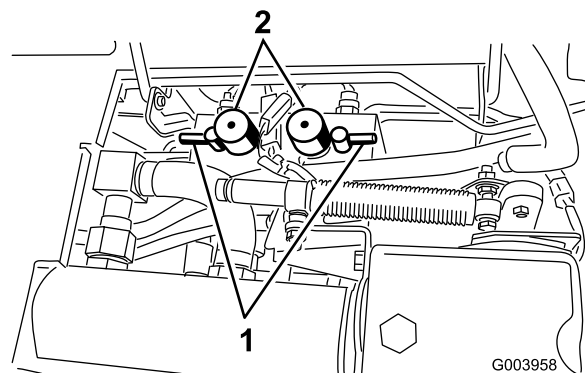

Figure 84
5. Set both reel speed controls to position 1 (Figure 84).
6. Select either front, rear or both backlap levers to determine which units to backlap (Figure 84).